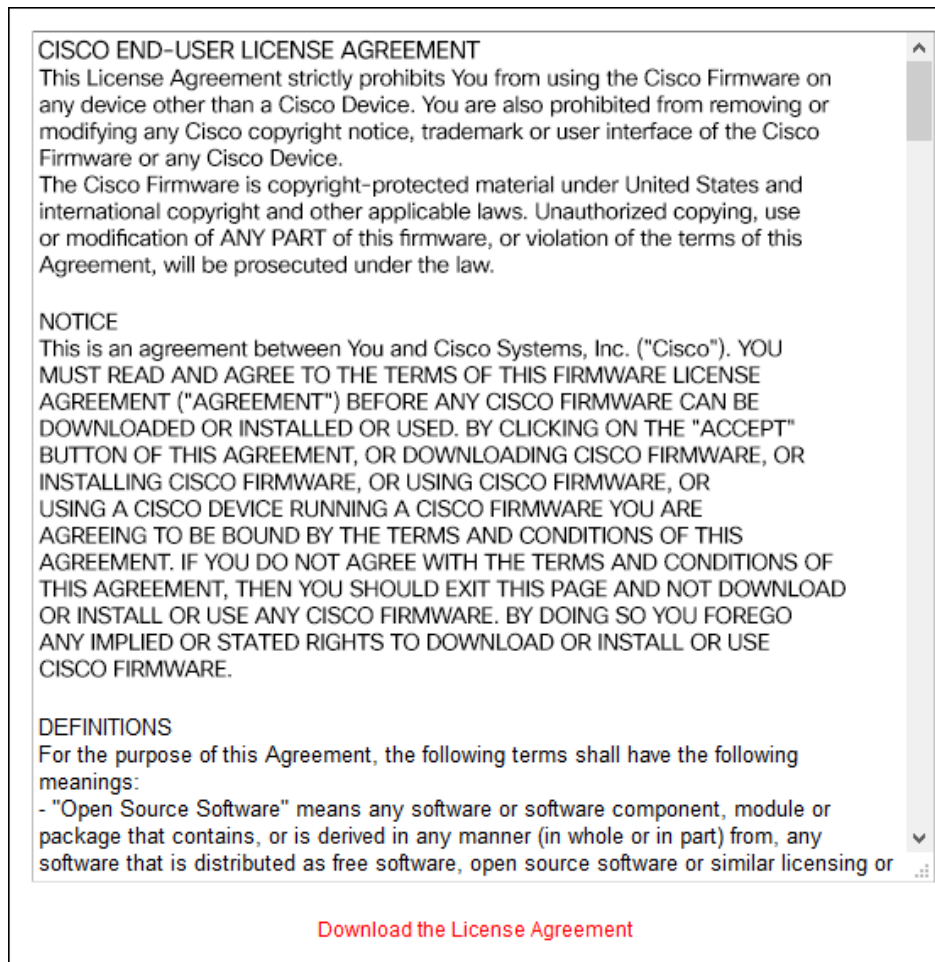

Figure 65. Configurator GUI (End-user license agreement)
- The license agreement dialog will be shown (Figure 65 (page 140)).